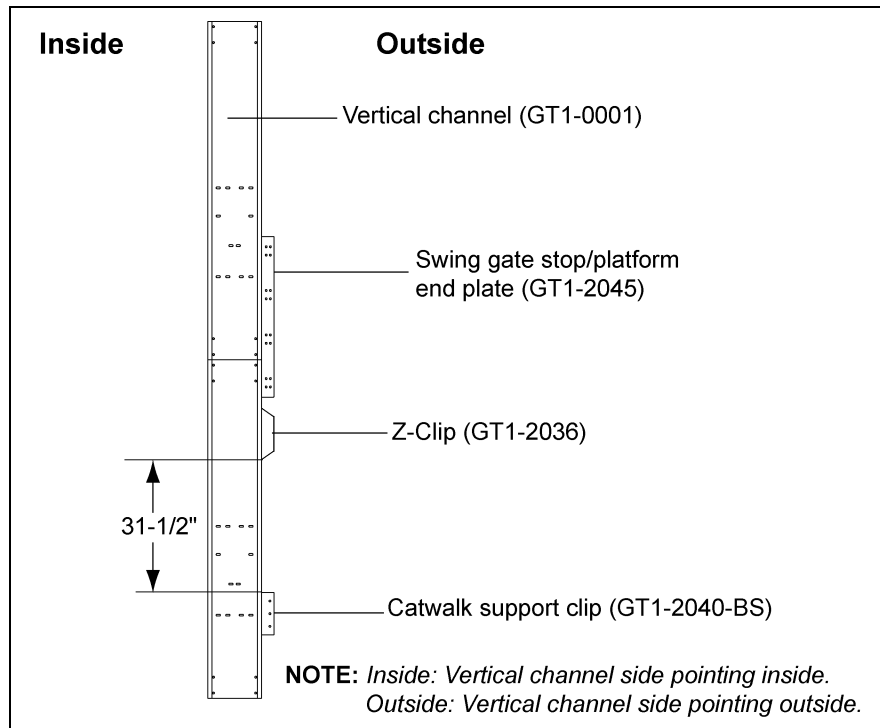
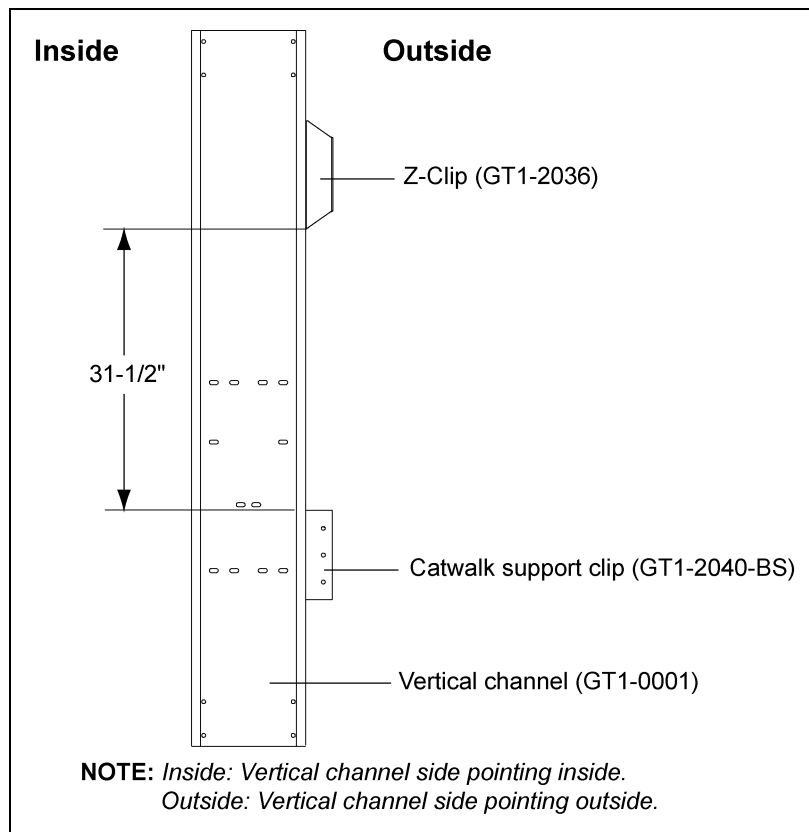

Figure 6H
Figure 6J
2. The distance between the Z-clip and support clip for 18' offset and roof hatch platform is 31-1/2". (See Figure 6H below and Figure 6J on Page 50.)